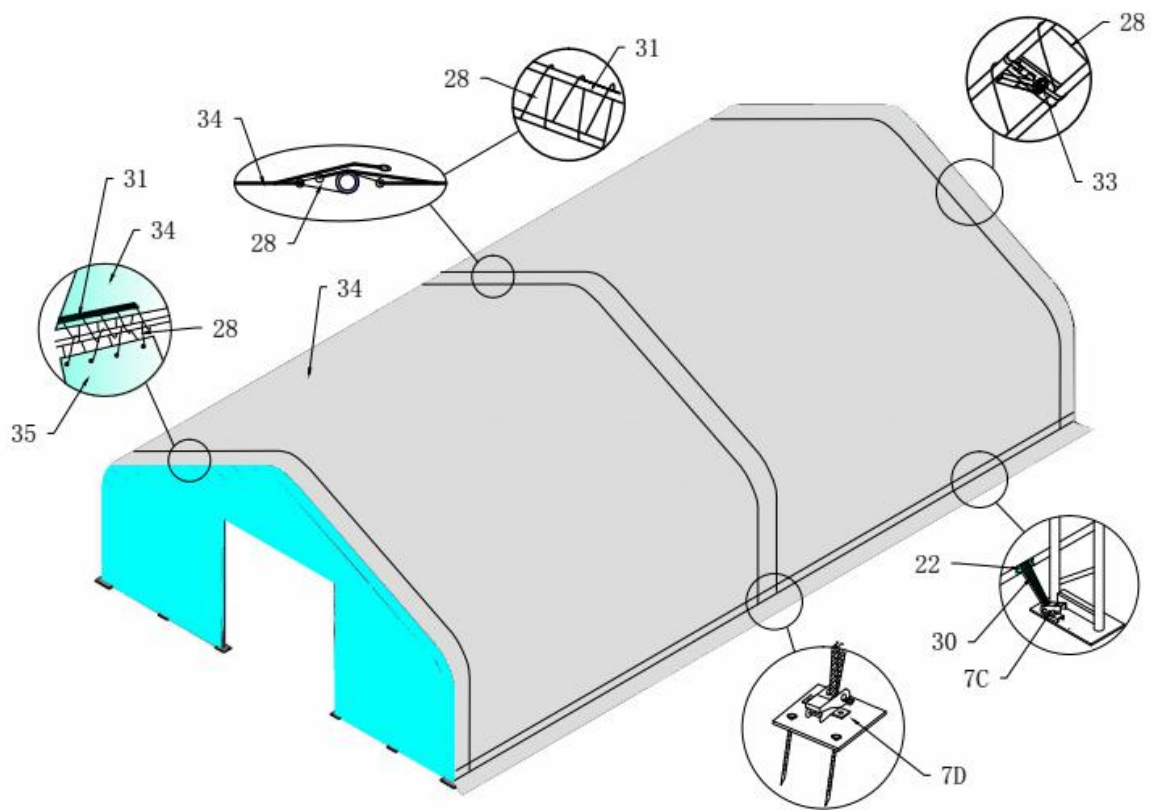

Figure 12
2.As Figure 12 shows, align one side of Roof cover evenly front to back, add band(No.30) for tie down ratchet at each point along the cover opening, Put band for tie down ratchets over cover tension tubes at each base plate along one side. Bands do not attach to tension tubes, but loop around and secure at both ends on ratchet.